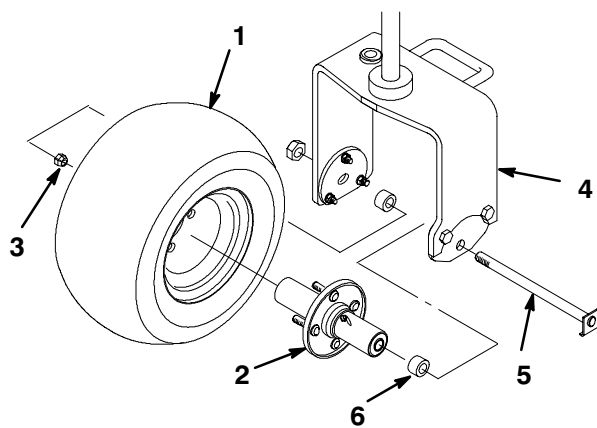

Figure 1
1. Mount the wheel hub to the rear wheel rim with (4) mounting nuts (Fig. 1). Torque the nuts to 70-90 ft-lbs.
2. Remove the wheel bolt and locknut from the wheel mount holes in the rear castor fork (Fig. 1).
- Position the bend of the wheel bolt head under the bottom edge of the adapter plate (Fig. 1). Install and tighten the locknut to secure the wheel to the castor fork. Do not overtighten the locknut as the wheel must rotate freely.